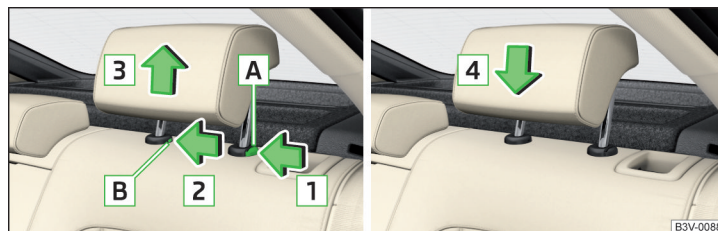

Fig. 84 Rear head restraint: removing / fitting
- › Press down the locking button **A** in the direction of arrow **1** » Fig. 84, while at the same time using a flat screwdriver with a max. width of 5 mm to press the locking button in opening **B** in the direction of arrow **2**.